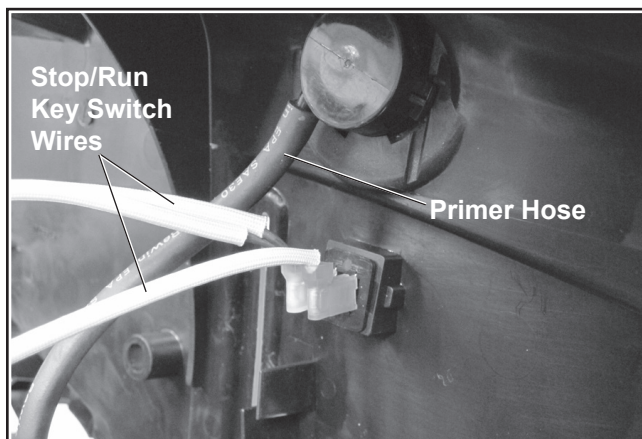

Figure 10. Remove Hose and Wires.
- Pull the hose off the back of the primer assembly. See Figure 10.
- Remove the stop/run key switch wires from the back of the engine cover. See Figure 10.